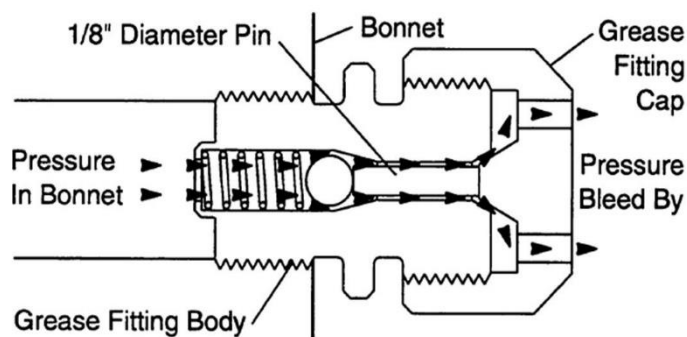

Fig. 8.1
1. Remove the grease fitting cap located on the bonnet flange. (Fig 8.1)